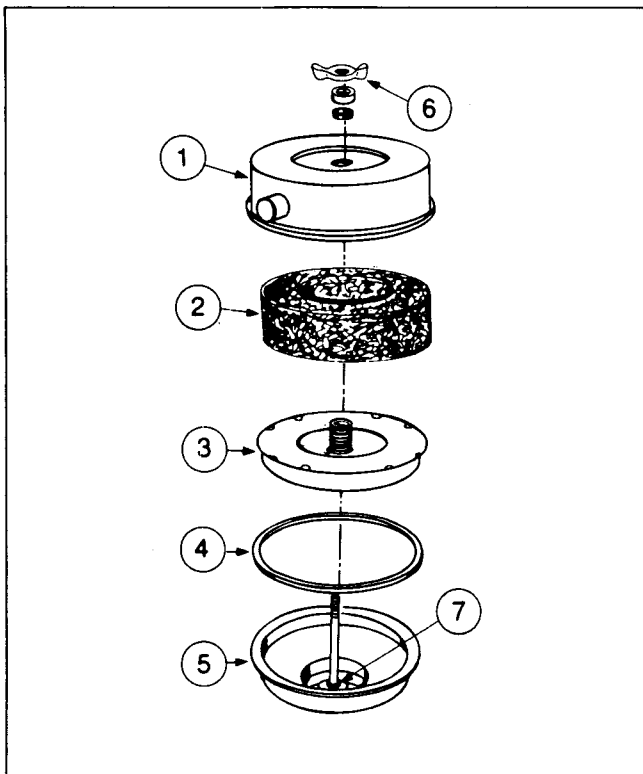

Fig. 2-24, (V51909). Crankcase breather — mesh element with vapor barrier
1. Remove wing nut (6, Fig. 2-24), flatwasher and rubber washer securing cover (1), to breather body (5).
2. Lift off cover and lift out breather element (2), vapor element (3) and gasket (4).
5. Install cleaned or new breather element (2, Fig. 2-24) and cleaned vapor element (3) to breather body (5).
6. Install rubber gasket (4) in cover (1); position cover assembly to body (5).
7. Install rubber washer, flatwasher and wing nut (6); tighten securely.